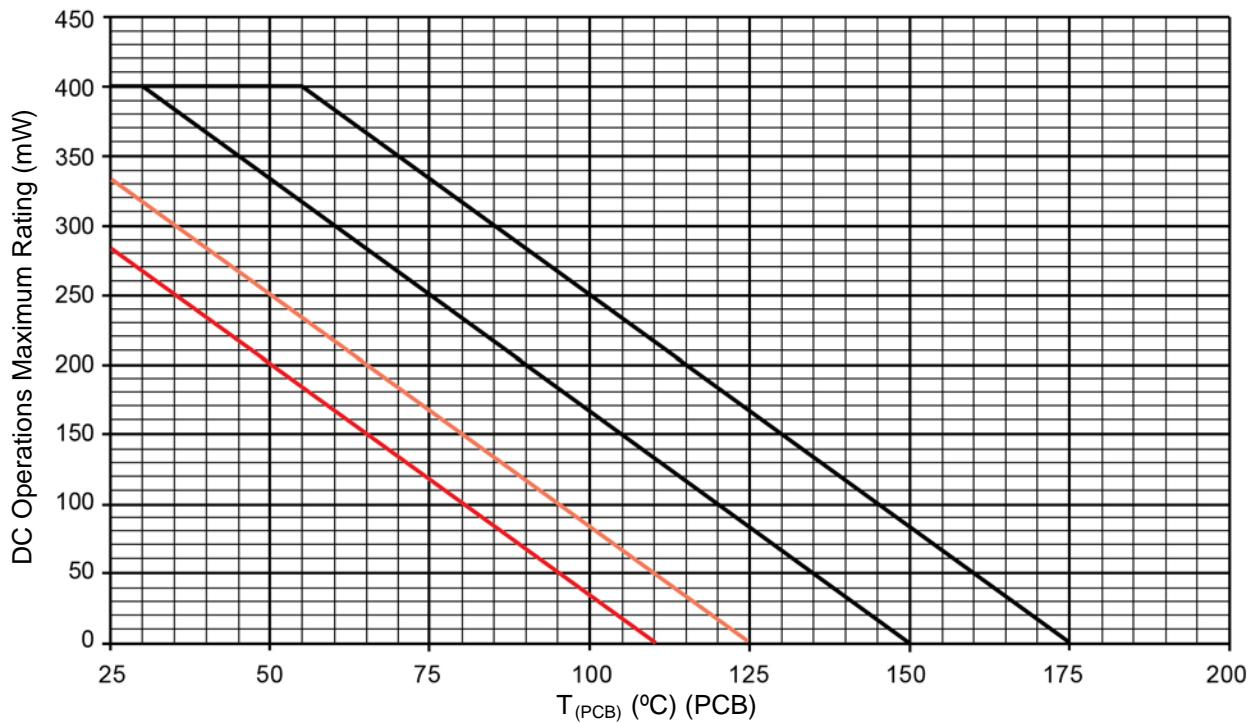

FIGURE 2
- The 0.5 W linearly derates starting at $T_{EC} = 125\text{ °C}$ and goes to zero at 175 °C. For ambient T_A condition on a typical PC board, it linearly derates from 400 mW starting at 55 °C and goes to zero at 175 °C (see Figure 2).